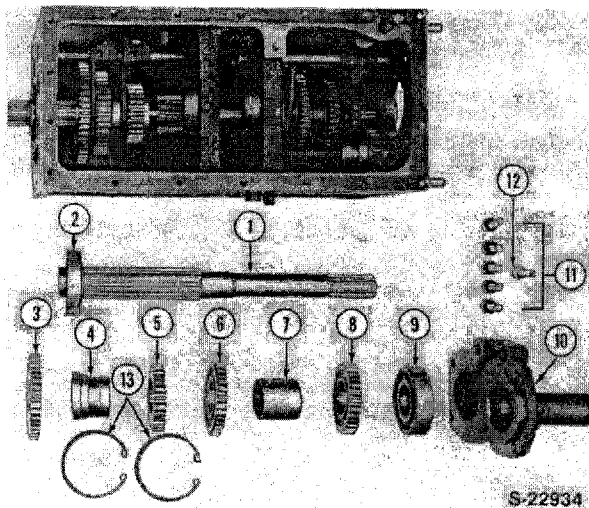

Figure 120
2. Gently drive the countershaft (2) rearward while supporting the fixed gears and collar.
3. Remove the front bearing (8), fixed gears and collar as the shaft is being removed.
5. Remove the retainer (10), Figure 120.
6. Remove the two bearing retaining snap rings (13), Figure 120, from the two center case webs.